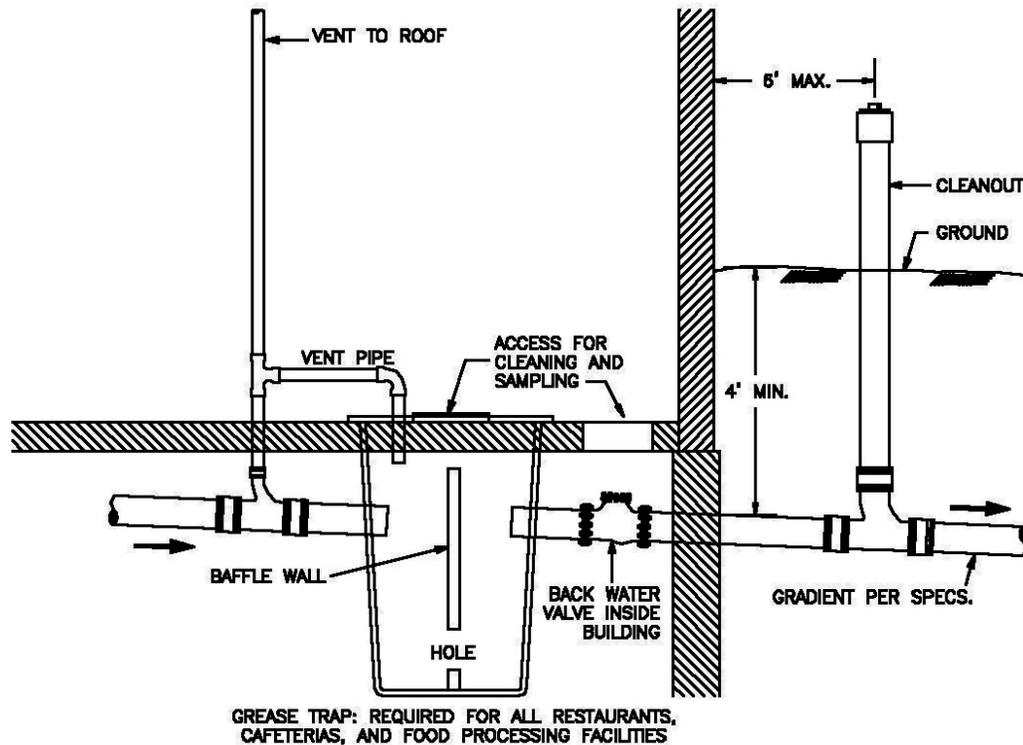

Figure 12: Typical Wastewater Interceptor Tank
- A. Grease Traps/Interceptors: The customer will furnish and maintain a grease trap/interceptor to trap animal and vegetable based greases and oils. Final acceptance of such a device is subject to approval by the Utility. All commercial kitchens and other food processing facilities shall be equipped with such a device. Further applicability and information on this requirement can be obtained from the Utility. See Figure 12.